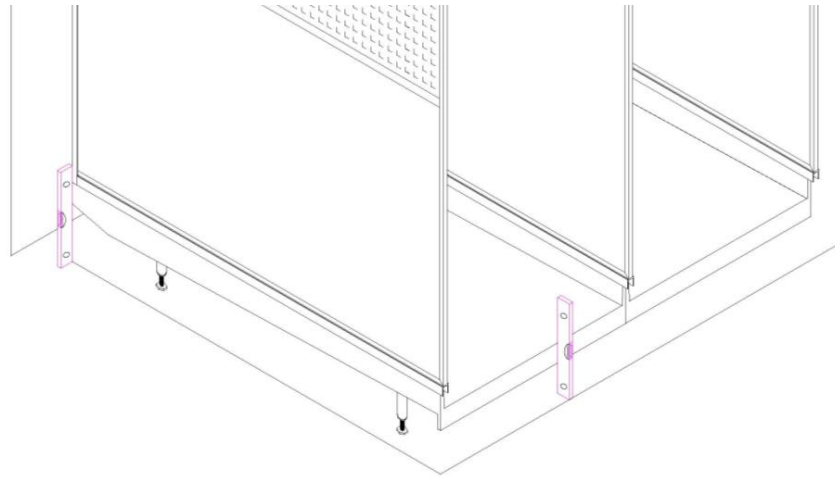

Fig. 27
1. After units have been set in place, leveled, and plumbing connected, use a level and chalk line to mark the floor location of Front Trim Panel angle supports. See Fig. 27.